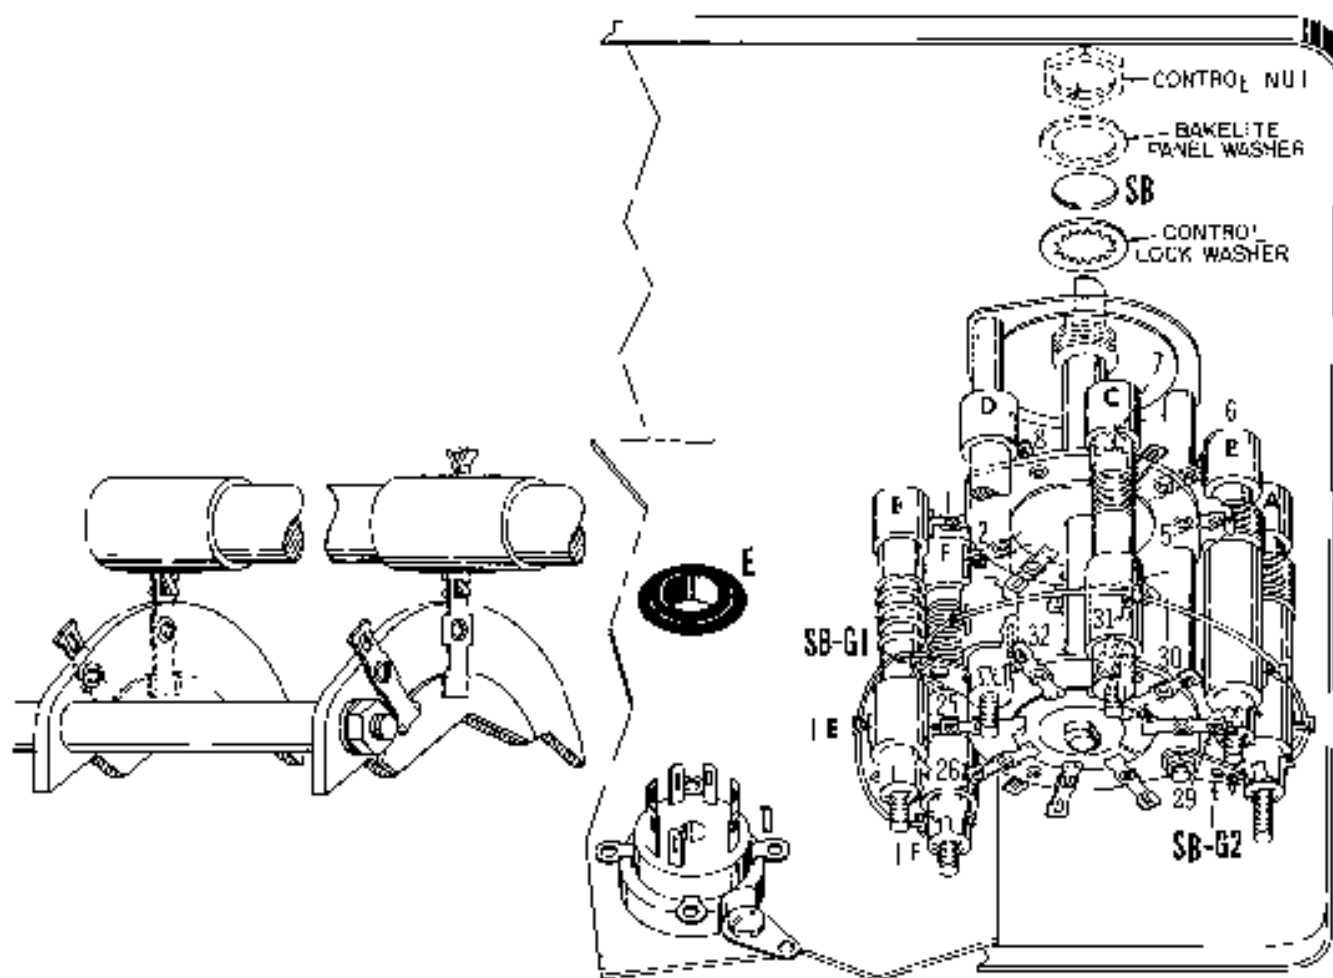

FIGURE 9
- ( ) 23 Install the band switch at location SB. Use a control lockwasher, a Bakelite panel washer and control nut. See Figure 9. With the switch turned fully counterclockwise, position the flat on the shaft so that it is opposite the Band "A" marking on the panel. Tighten the control nut.
## REFER TO FIGURE 9
Figure 9 The coils are labeled with letters which correspond to the band. The coils are adjusted at the factory for proper calibration. Do not turn the slug adjustments. See calibration procedure in this manual.
- ( ) 38. Slip a 2-1/4" length of thin bare wire through terminal U.E to L.F (Solder). Connect the other end to ground lug SB-G1 (Don't Solder). Now solder LE. See Figure 9